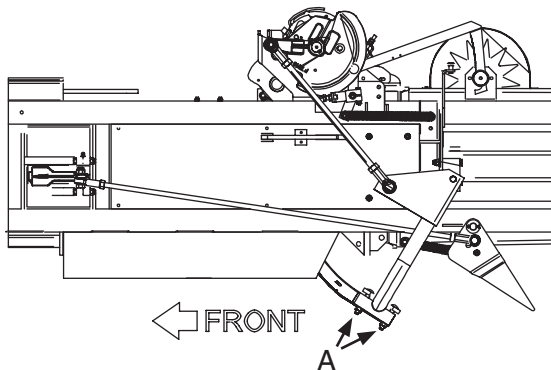

Figure 108. Needle Anchor Bolts
2. The needles should clear the twine disc cleaner 1/8". To increase the distance between the needle and the twine disc cleaner, loosen the front and tighten the rear needle anchor bolts (A), Figure 108. To decrease the clearance reverse the procedure.